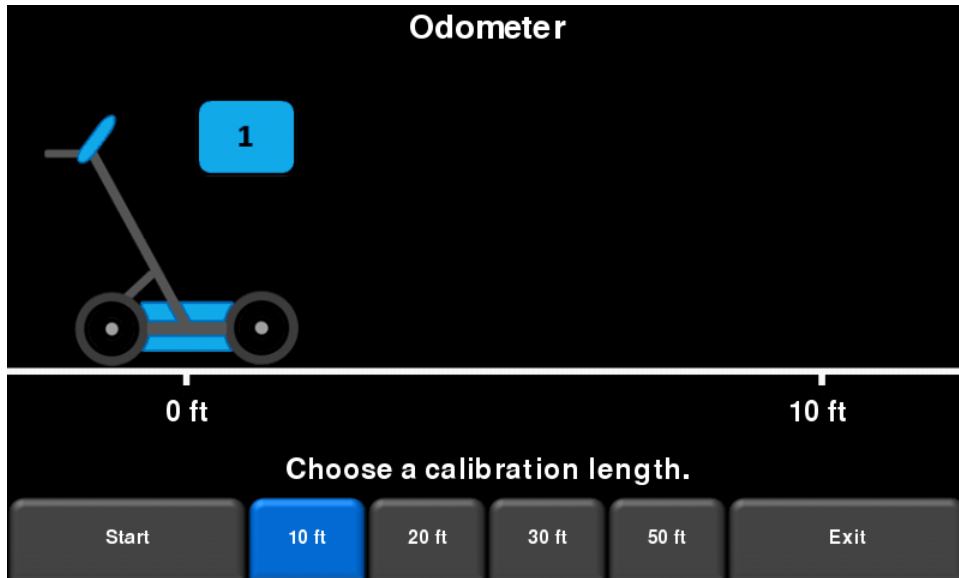

Figure 6-19: Odometer Calibration – select a distance and then press Start
- Odometer Calibration** - This option actually calibrates the odometer (Figure 6-19). Choose a set distance from the screen, or select Custom. Then press **Start** and then move the system that exact distance, using a measuring tape or other known distance indicator. Press **Finish** when you have travelled that distance.